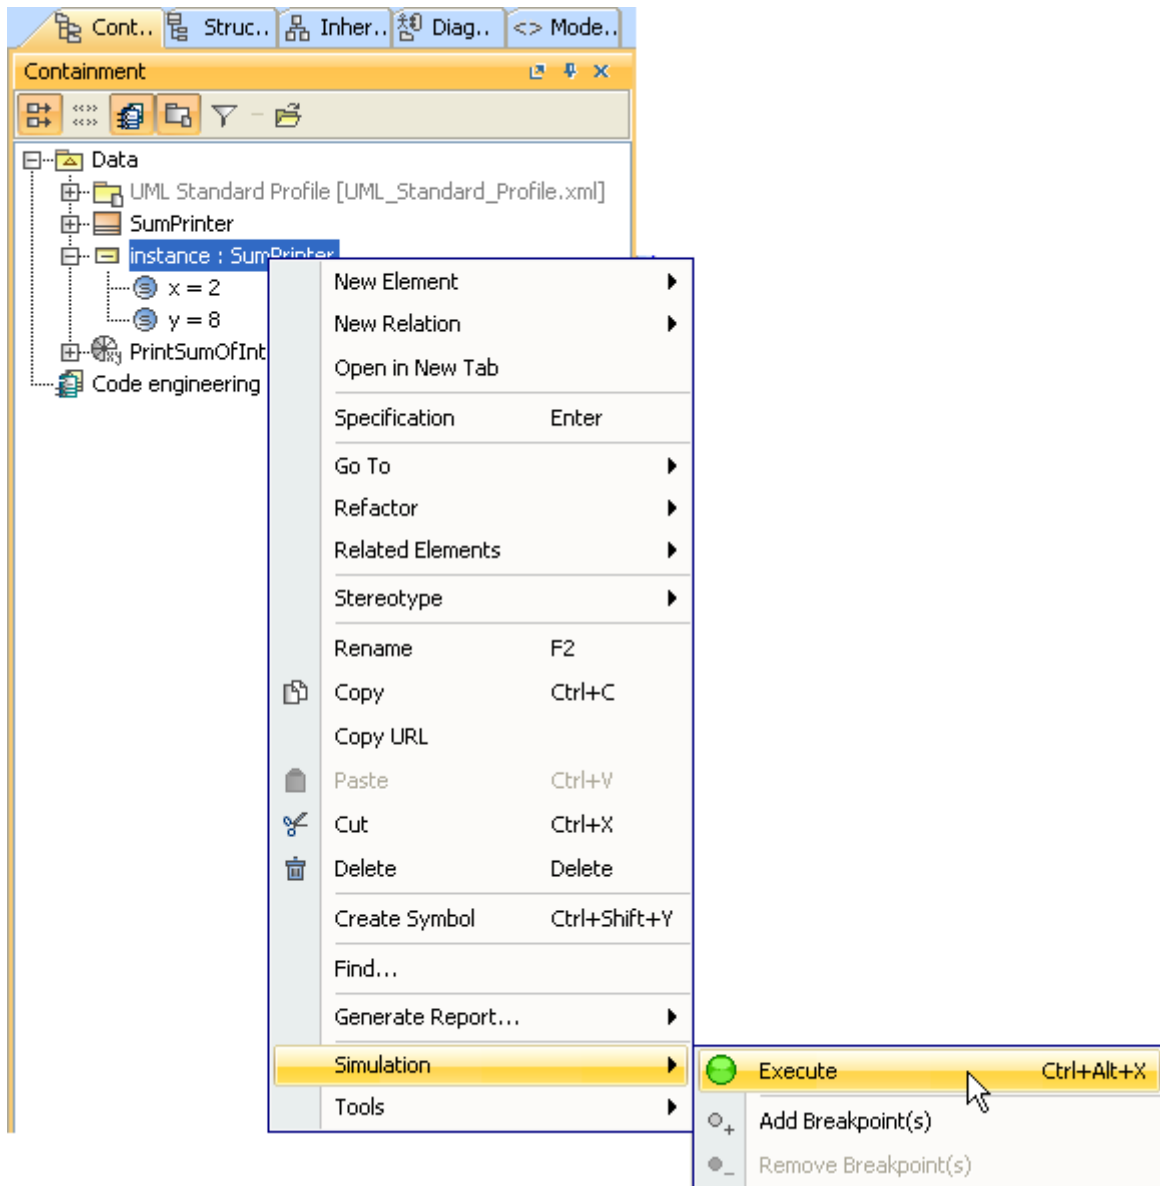

Figure 80 -- Executing InstanceSpecification
2. Right-click **instance** in the containment browser and select **Simulation > Execution** (Figure 80) to execute the model from **instance**, which is the InstanceSpecification of the **Sum-Printer** classifier.
5. Click the **Resume Execution** button on the **Simulation Window** toolbar to continue the execution (Figure 80).